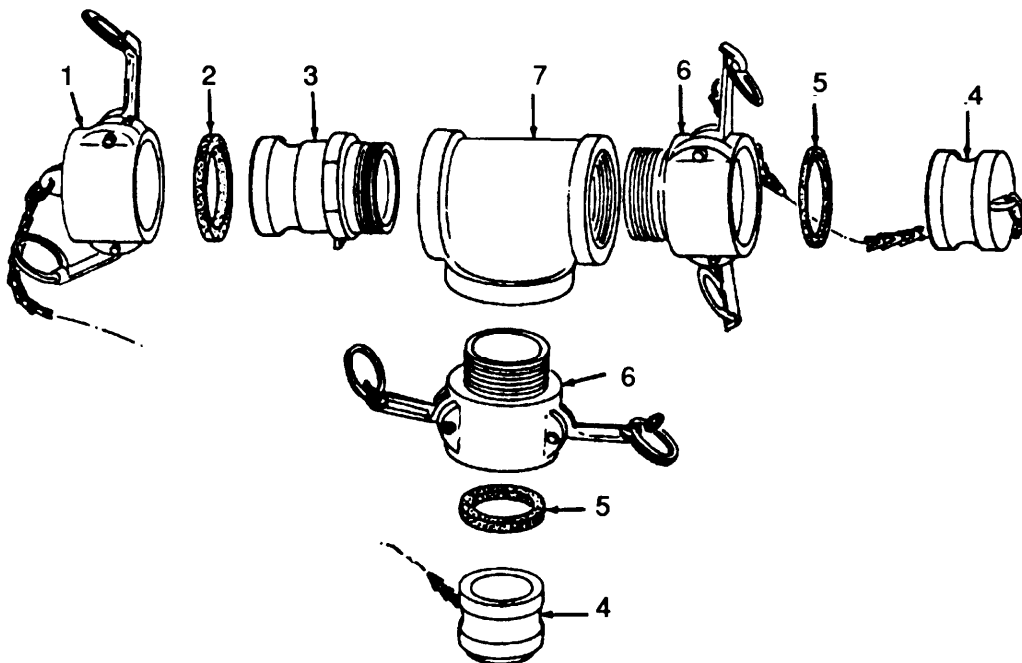

Figure 4-11. Tee Assembly, Disassembly/Reassembly.
- (1) Inspect tee assembly for damaged dust plugs or dust cap.
- (2) Inspect tee assembly for damaged camlock levers.
d. **Repair.** Repair is limited to replaang defective parts.e. **Disassembly.** (Refer to Figure 4-11.)
- (1) Pull upon camlock levers and remove dust cap (1) and gasket (2). Remove coupling half (3). Discard gasket (2).
- (2) Pull upon camlock levers and remove two dust plugs (4) and two gaskets (5). Discard gaskets (5).
- (3) Remove two coupling halves (6) from tee (7).
- (1) Refer to Figure 4-11 and apply sealing compound to threads and install two coupling halves (6) in tee (7).
- (2) Install two gaskets (5) and two dust plugs (4). Secure dust plugs with camlock levers.
- (3) Apply sealing compound to threads and install coupling half (3), gasket (2), and dust cap (1). Secure dust cap with camlock levers.